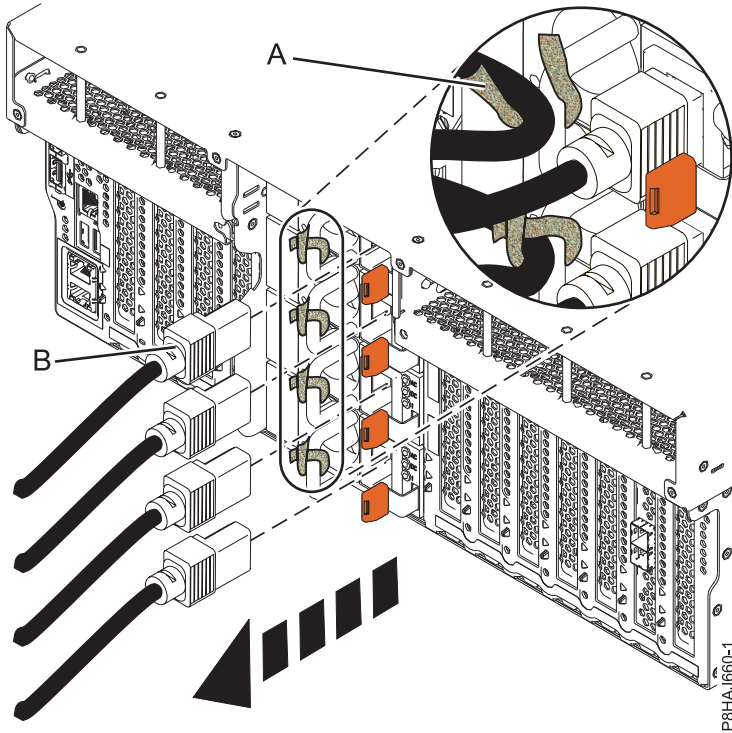
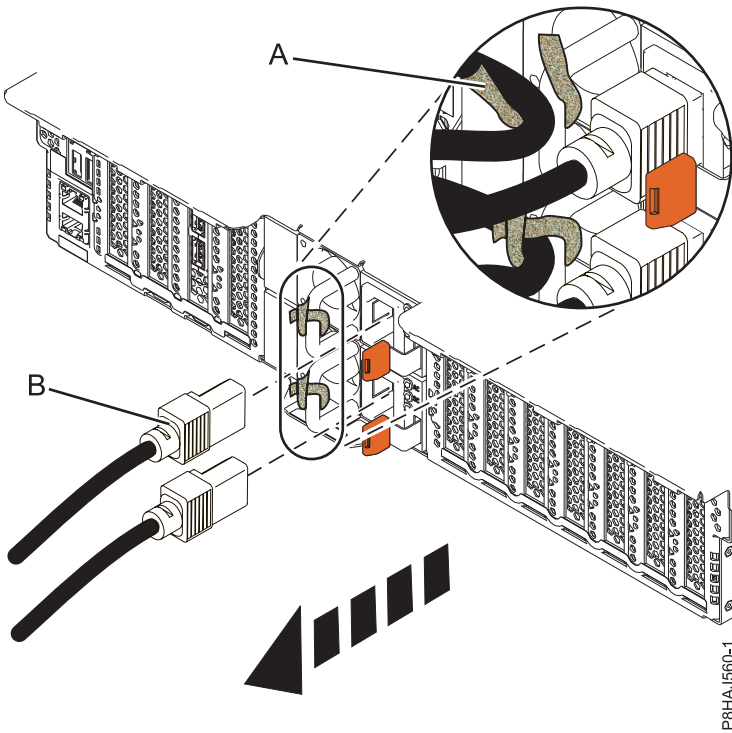
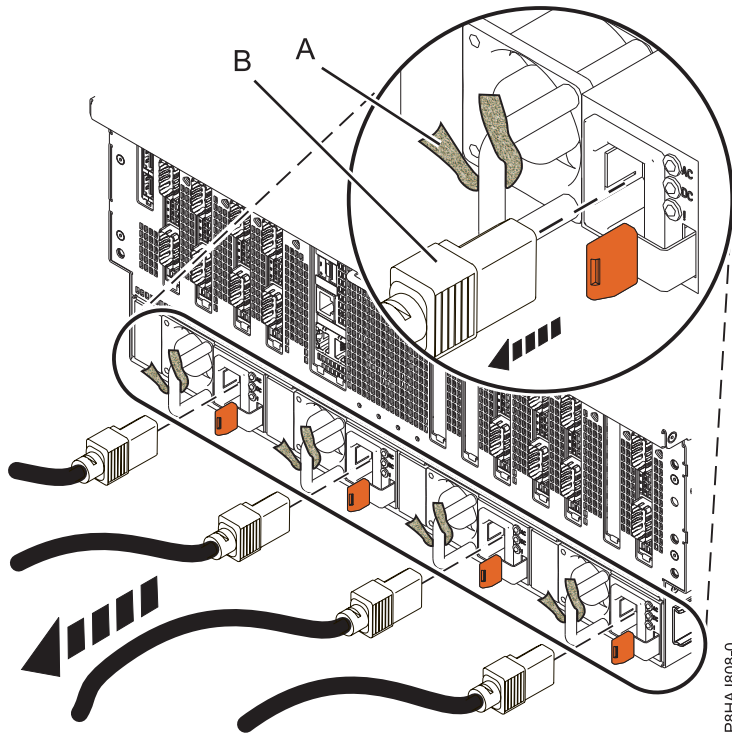

Figure 36. Removing the power cords from an 8247-42L, 8286-41A, or 8286-42A system
Figure 37. Removing the power cords from an 5148-21L, 5148-22L, 8247-21L, 8247-22L, 8284-21A, or 8284-22A system
Figure 38. Removing the power cords from an 8408-44E or 8408-E8E system
3. Disconnect the power cords (B) from the system unit. See Figure 36 on page 50, Figure 37 on page 50, or Figure 38 on page 51 or depending on the type of your system.